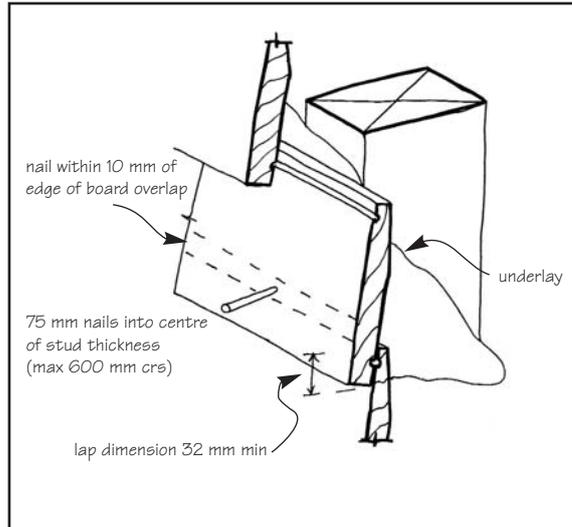

Figure 2. Bevel-back boards direct-fixed.
4.1.2 For each of the weatherboard types (shown in Figures 2 to 8):
4.2.4 Figures 2 to 8 show galvanising jolt head nails. Smaller sizes are available with annular groove nails (see Table 1).